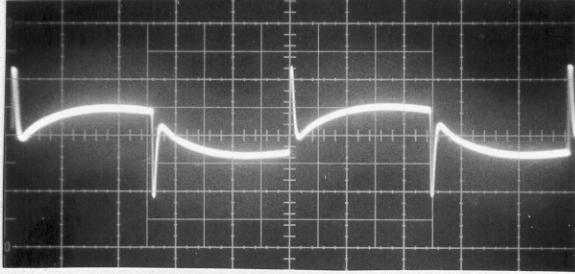

Fig. 11. Contour in.
- 7) Engage contour switch, compare to Fig.11. Disengage.